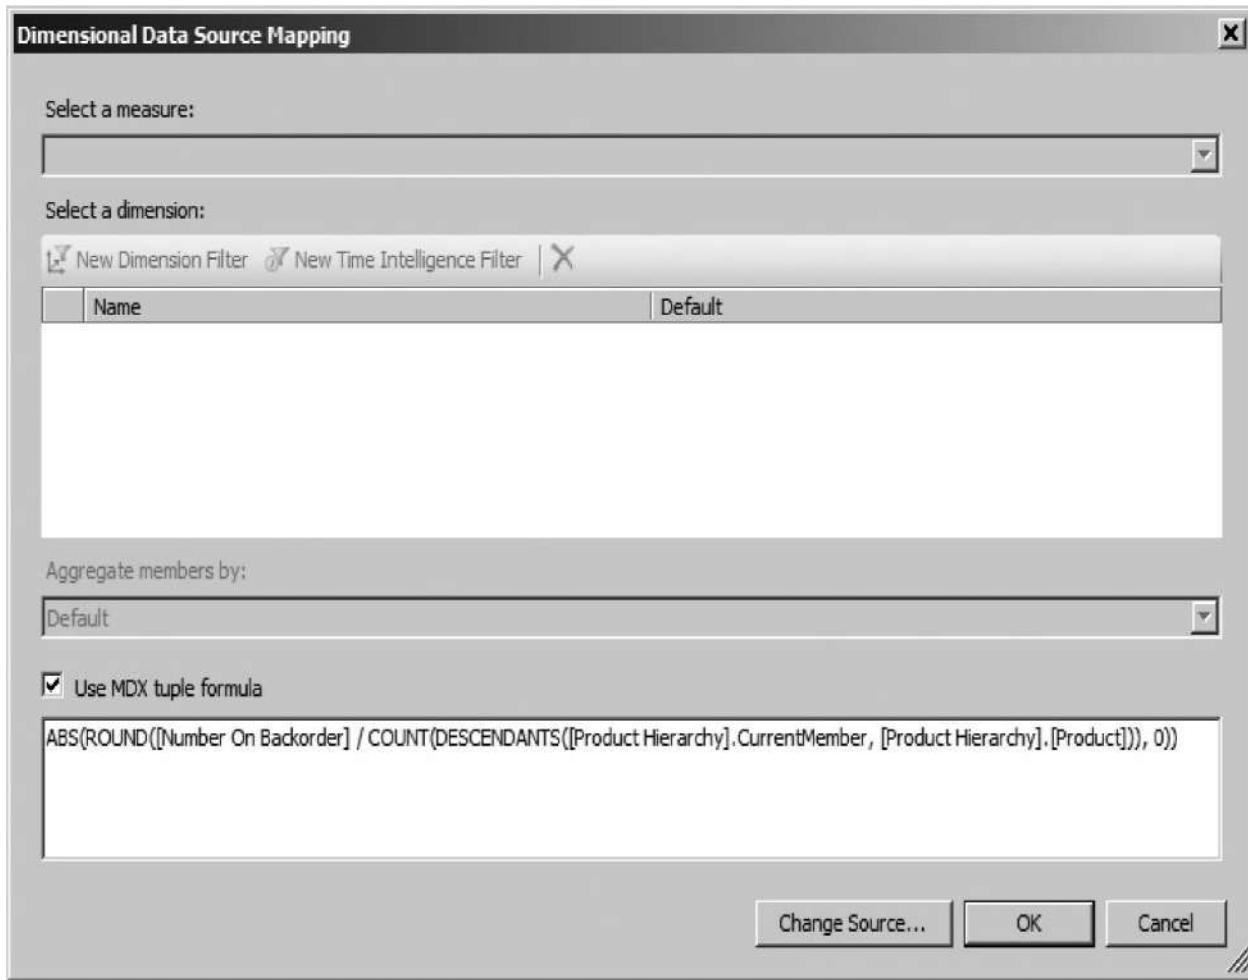

**Figure 17-52** The Select a Data Source dialog box
7. Select the MaxMinManufacturingDM Analysis Services data source, as shown in Figure 17-52.